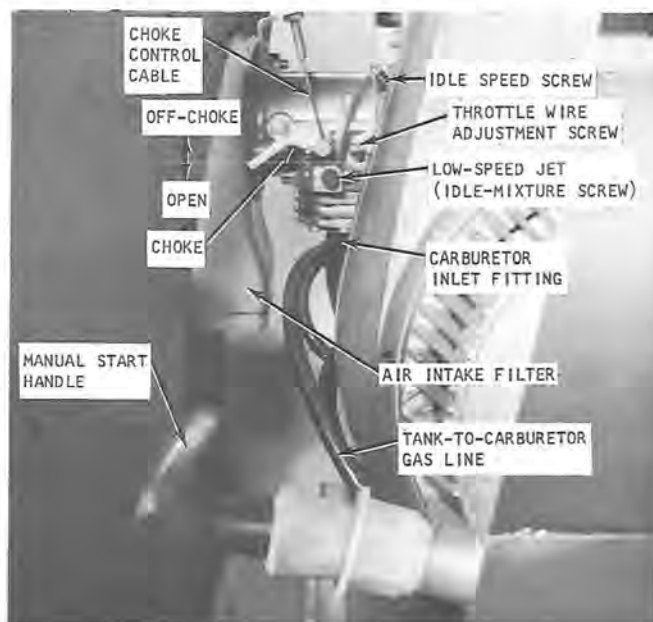

Figure 10
- Remove the three screws securing the air intake filter (figure 10) and choke control bracket mounted on the Mark IV carburetor only.
- Release the tank-to-carburetor gas line (figure 10). Wipe up any spilled gasoline immediately.
● Turn the low speed jet (idle-mixture screw) shown in figure 10 all the way in (**DO NOT FORCE**), then open as shown in figure 9 for the particular model sled. This adjustment controls the mixture at idling speeds. A lean idle mixture will result in poor acceleration.
NOTE: Figure 10 shows a throttle-wire adjustment screw. If the throttle plate fails to open completely when the throttle control lever is depressed, loosen the throttle-wire adjustment screw and readjust the wire as required to open the throttle.